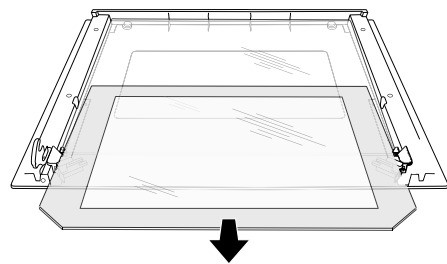
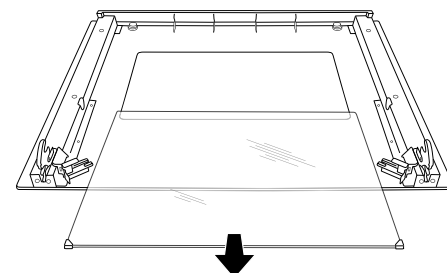

Fig. 4
Fig. 5
4. Lift up the door outer glass and gently pull it out, then take the door middle glass out in the same way. Fig.4 & Fig.5.